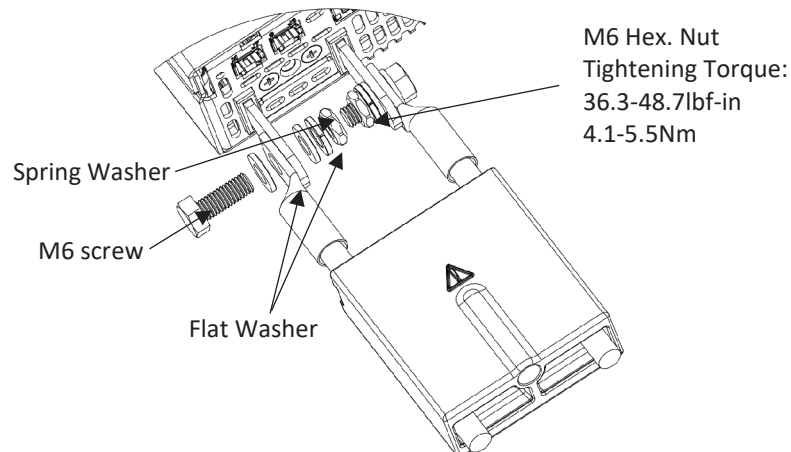

Figure 4-46: 20V-100V Wires Assembly
3. Fix the wires to the Bus bars as shown in Figure 4-46.